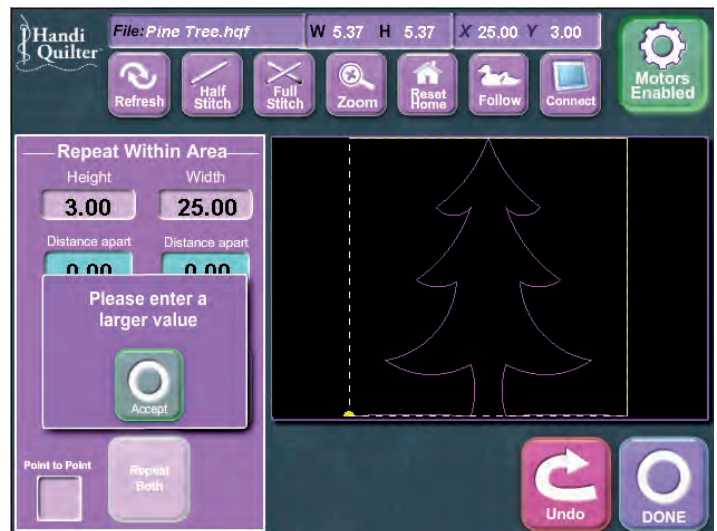

Figure 30
7. If the size of the defined area is smaller than one instance of the loaded pattern, a message will pop up, instructing the user to enter a larger value (Figure 30). Press the “Accept” button and correct the height and/or width and try again. In Figure 30, the height entered is 3 inches, but the height of the pattern (as can be seen at the top of the screen) is 5.37 inches. The error pops up because the Pro-Stitcher cannot fit this pattern into the desired size box without shrinking the pattern.